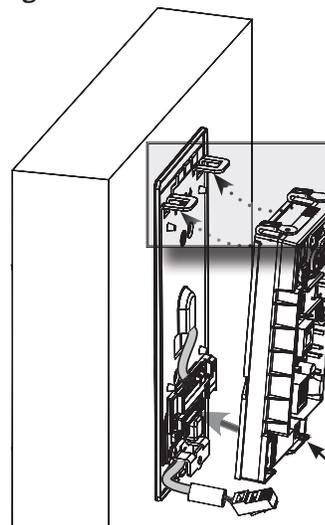

Figure 19d
1. Insert bottom tab of controller (ensure a clear path) into slot on mounting plate (Figure 19d, 19e).